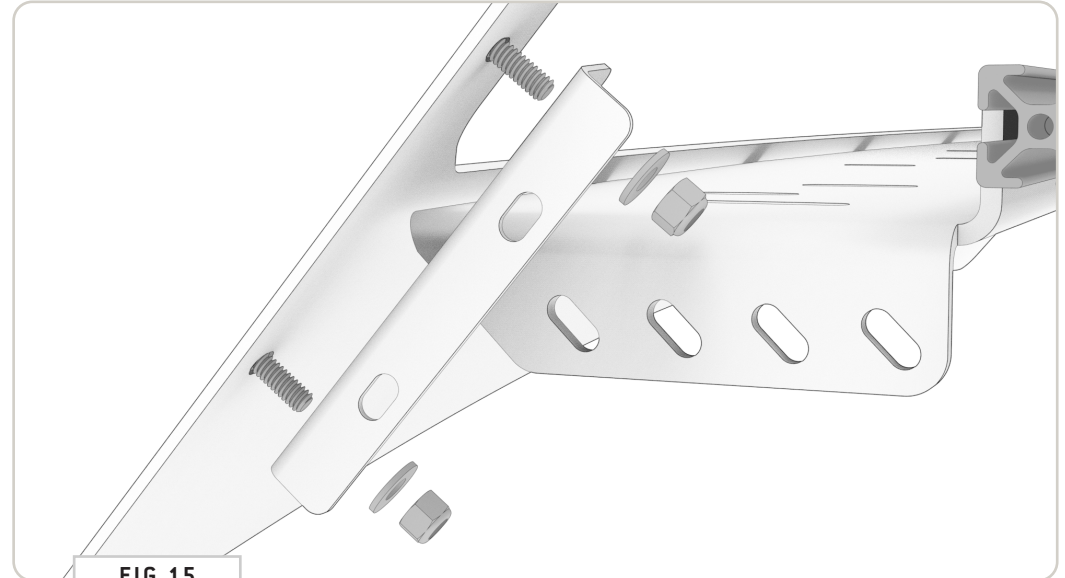

FIG 15
**4.4 Attach Fairing Side Brackets:** Loosely attach **Fairing Side Brackets** to the **Fairing Assembly** using **1/4"-20 Flanged Head Screws, Flat Washers and Nylock Locknuts**. Note that the flanged face of these Fairing Brackets will face outward as shown in **FIG 15**.